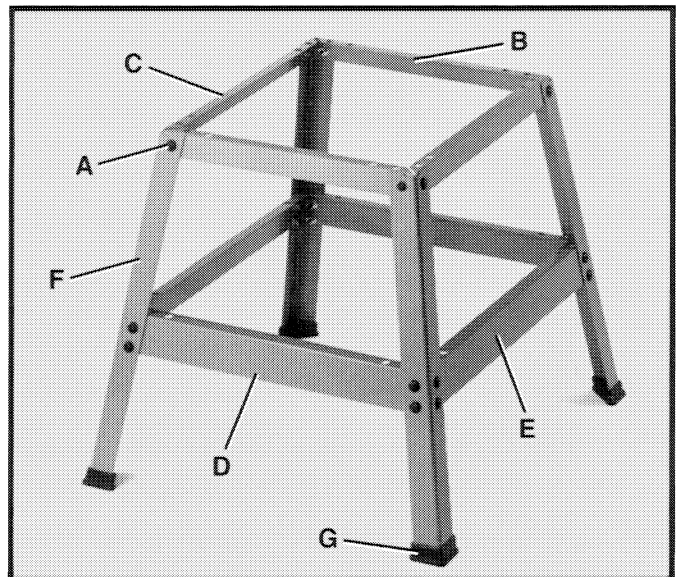

Fig. 8
Assemble the stand as shown in Fig. 8, using twenty-four 5/8" long carriage bolts (A), 5/16" I.D. flat washers and 5/16-18 hex nuts. For ease in identifying the top and bottom front, rear and side braces, refer to the following and Fig. 8:
- (B) Two top front and rear braces – 17" long
- (C) Two top side braces, 20-1/4" long
- (D) Two bottom front and rear braces – 21-1/4" long
- (E) Two bottom side braces, 24" long
**IMPORTANT:** The four legs (F) Fig. 8, should be positioned outside the braces as shown. Do not completely tighten the mounting hardware at this time.
Assemble the four rubber feet (G) Fig. 8, to the bottom of each leg (F) as shown. **NOTE:** Each rubber foot (G) is provided with a hole for mounting the stand to the floor surface if required.